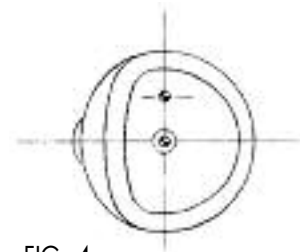

FIG. 4
- (a) Loosen setscrew (A) at base of support arm and rotate unit, or
- (b) Loosen setscrew (B) on horizontal part of support arm and rotate pyrometer.
- (c) With the pyrometer tilted back (bottom set screw contacting Stop) sight the reticle on the bottom spot of the crucible. (Fig. 4)
NOTE: The bottom spot should have different marking from the spot on the side. For identification (see Figure 4.)